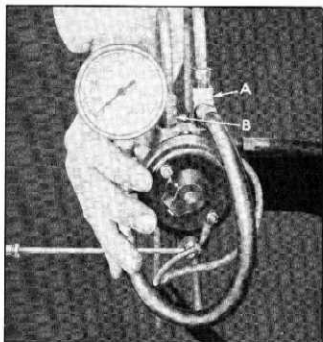

Fig. 56—Pressure Check at Valve
1. Connect the pressure gauge to one of the pressure ports of the operating valve. If the top is up use pressure port "A" and if the top is down use pressure port "B" (fig. 56). With the top up and the pressure gauge installed to pressure port "A", push the control knob in. Hold the control in this position for a few seconds and note the pressure reading which should be 250-260 psi. If pressure readings are below the specified readings and the pump pressure is normal the trouble lies either in the valve itself or the hydraulic lines leading to the valve. Disassemble and check for obstructions within the valve body, also check hydraulic lines for kinks or passage obstructions.